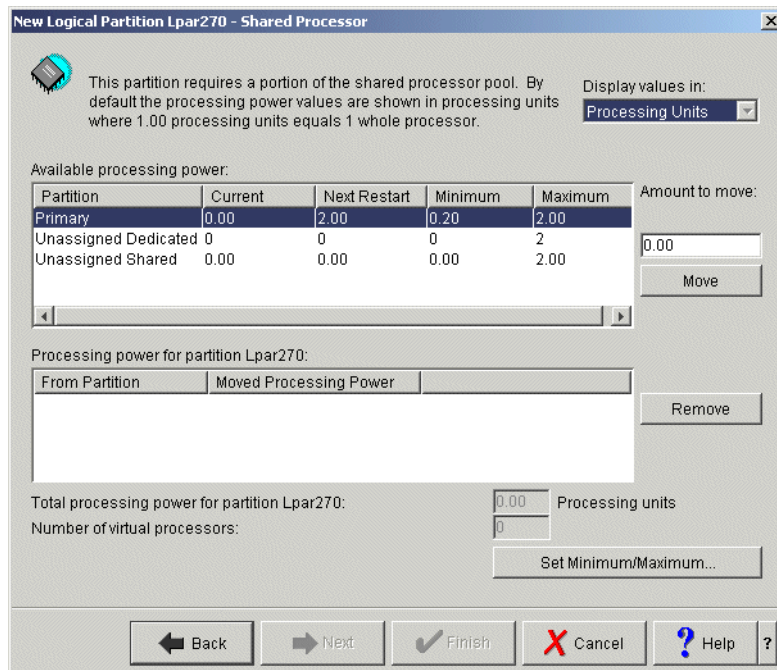

Figure 4-15 New Logical Partition - Shared Processor window
12. The New Logical Partition - Shared Processor window appears as shown in Figure 4-15.